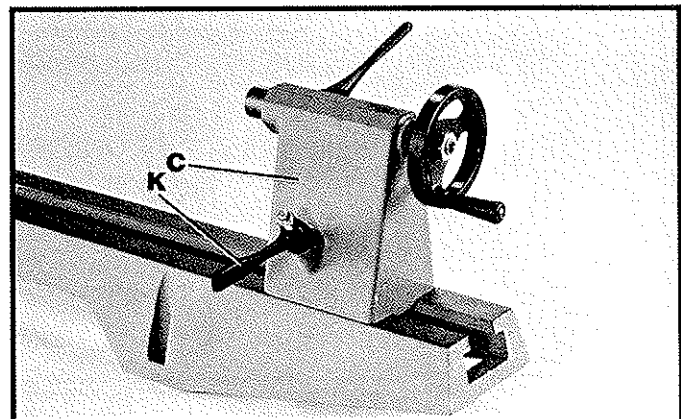

Fig. 11
10. Fig. 11, illustrates tailstock (C) mounted on right end of lathe bed. Tighten locking lever (K).